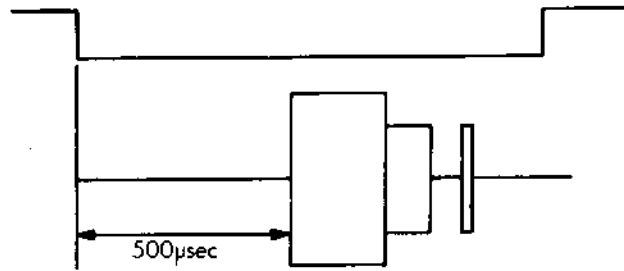

Fig. 5-1 Index burst waveform
- 5) Measure timing between sweep start and an initial data pulse. It should be 500 usec  $\pm$ 500 usec. When the timing is not within this range, proceed with the following adjustment. (Refer to Fig. 5-1).
Tighten the screws. (Fig. 5-1).